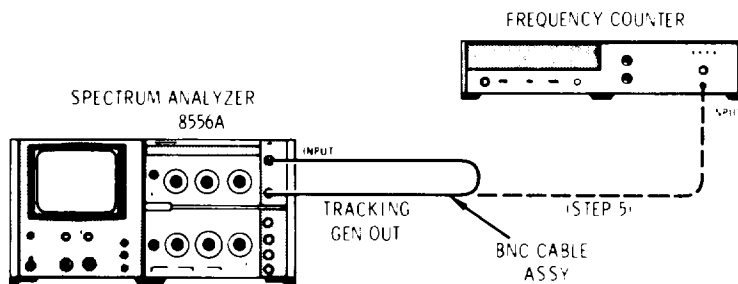

Figure 4-2. Marker Accuracy Test Setup
1. Connect equipment as shown in Figure 4-2, connecting TRACKING GEN OUT to analyzer INPUT with BNC cable.